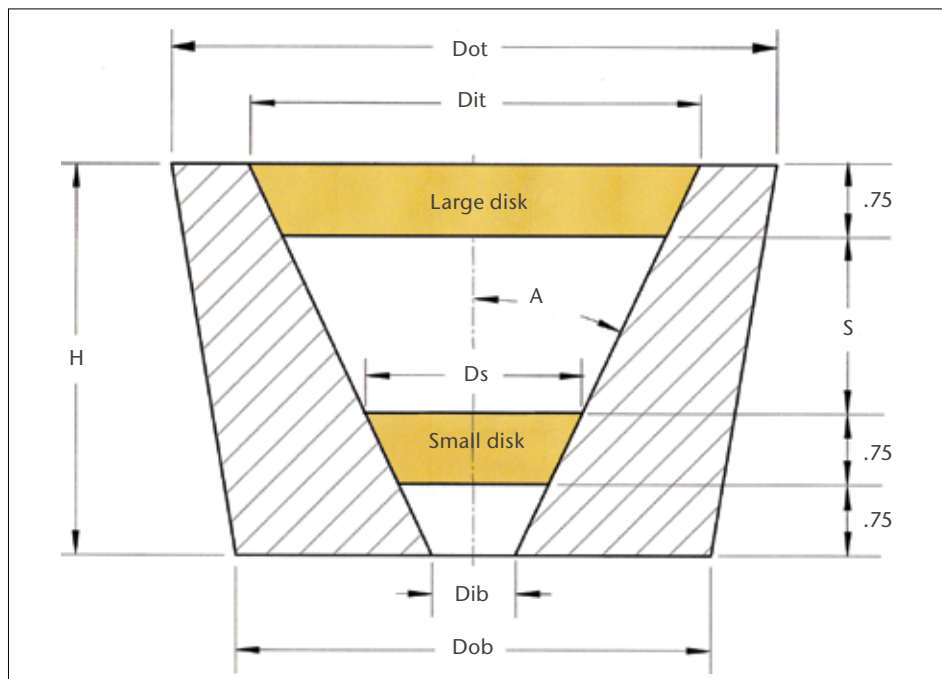

Figure 6. Disk geometry of the adjustable conical core.
7. Draw a cross section of the assembly (*hatched area in Figure 6*) using the dimensions obtained in the previous step, with the large disk flush with the top of the stack and the small disk, about $\frac{3}{4}$ " (19mm) from the bottom. Record your actual measurements for the following labels shown in *Figure 6*: